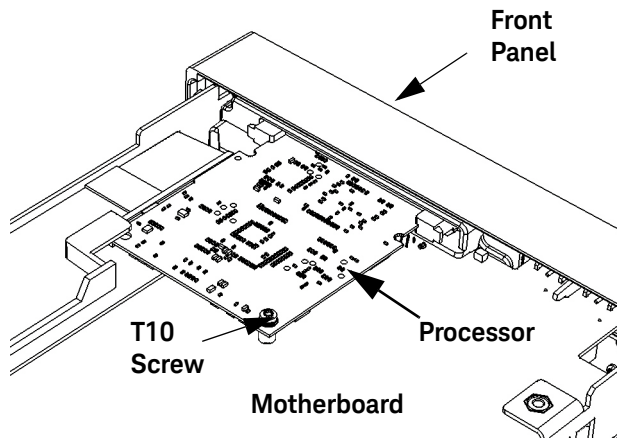

Figure 4-9 Processor printed circuit board
- 2 Turn the chassis upside down. On the bottom of the motherboard, remove the T10 TORX screw that secures the smaller Processor board to the motherboard (see Figure 4-9).
18 Re-install the processor board on the underside of the motherboard (removed in steps 2-4 above) as follows (refer to Figure 4-9):